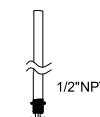

Figure 8
1. Loosen the nuts on the 1/2" NPT (see Figure 8).